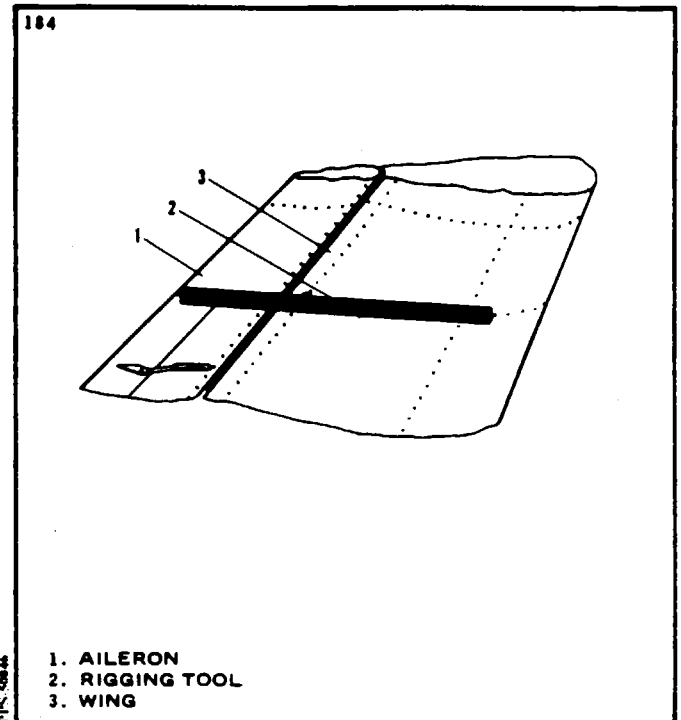

Figure 5-5. Installation of Aileron Rigging Tool
1. Place a modified straight edge, as shown in Figure 5-5 against the underside of the wing, next to and outboard of the row of rivets at station 189.00 with the aft end of the tool even with the trailing edge of the aileron. (This tool may be fabricated from dimensions given in Figure 5-31.) Do not place tool over rivets.
3. Should the three points not contact, loosen the jam nuts (52 and 58) of the control rod ends (51 and 57) and rotate the rod (25) until the three contact points touch the skin surfaces. Tighten the rod end locknuts.
c. With the bellcrank in neutral position, adjust cable tension as given in Table V-II to maintain neutral-center alignment of control wheels. Remove the floor panel to the left of the control pedestal. Alternately adjust the primary and balance cable turnbuckles (2) at the bellcranks with the turnbuckles (17) within the fuselage at station 76.00. Cable tension should be taken at the non-ridged primary control cable and tension corrected to ambient temperature per Table V-I, without autopilot bridle cables connected. Safety turnbuckles.
d. To adjust the interconnecting cables between the aileron and rudder cables, first ascertain that cable tension has been set for both the aileron and rudder cables. Ascertain that the aileron and rudder controls, and surfaces are neutral, then remove the access panel to the aft interior section of the fuselage and adjust the interconnecting cable turnbuckles (26) at station 285.00 so that the springs (28) will extend .060 of an inch.
e. Place a bubble protractor on the inboard section of the aileron and establish neutral or zero on the protractor. Remove the tools holding the aileron bellcranks in neutral, replace nuts and safety. Adjust the bellcrank stop bolts (59) to the specific aileron travel from neutral as given in Table V-II. Stops of both bellcranks should contact their stop blocks at the same time and before the control wheel contacts its stop.